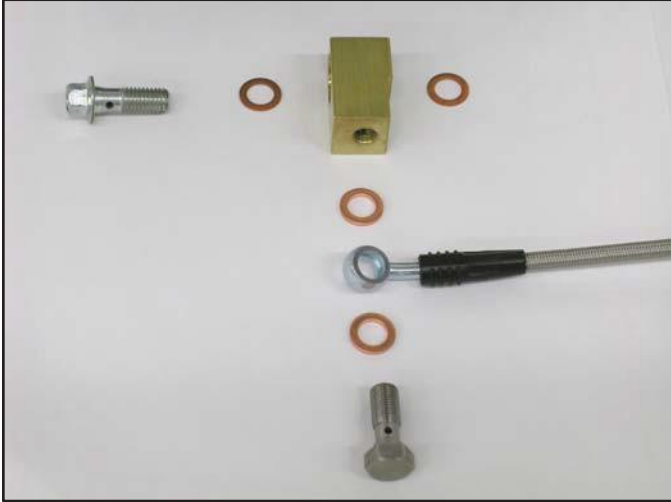

Figure 1
- 5) Install the brass adapter block to the back of the caliper using the metric banjo bolt and copper washers supplied. Secure the original flex hose to the adapter block using the 3/8" banjo bolt and copper washers supplied. Torque the banjo bolts to 20 ft/lbs. See figure 1.